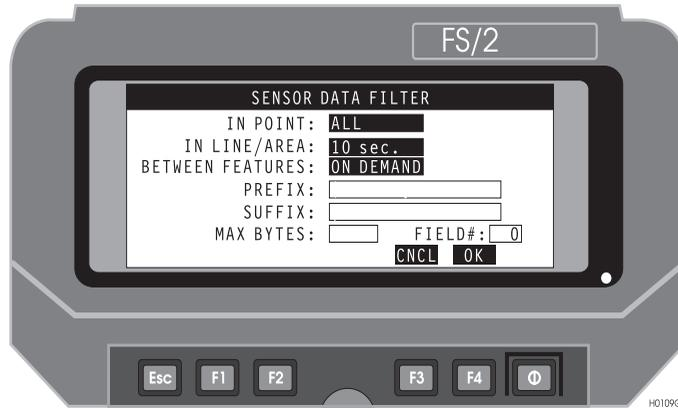

Figure 3.25: Sensor Data Filter Screen
6. Press **F1 (FLTR)** to call the Sensor Data Filter Data screen, Figure 3.25, which lets you define the method of filtering data from the sensor device.